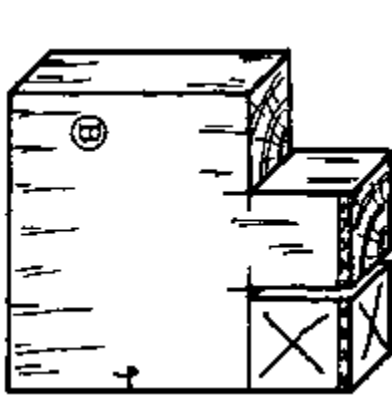

Fig. 9
- Carefully saw the shoulders, making sure to hold the saw straight. Keep on the waste side of the line (Figs. 9 & 10).